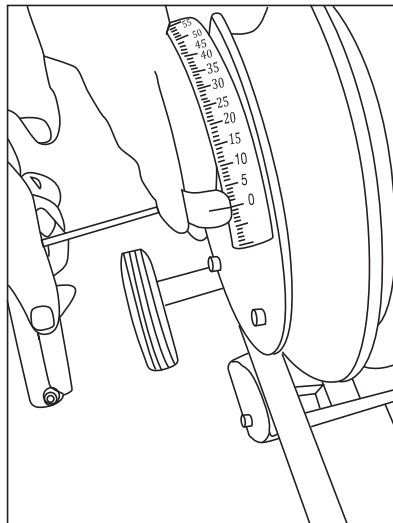

Fig 3
5. Adjust protractor pointer by loosening the Allen screw on the front side of the shoe using a $\frac{3}{16}$ " Allen wrench (Fig. 3).